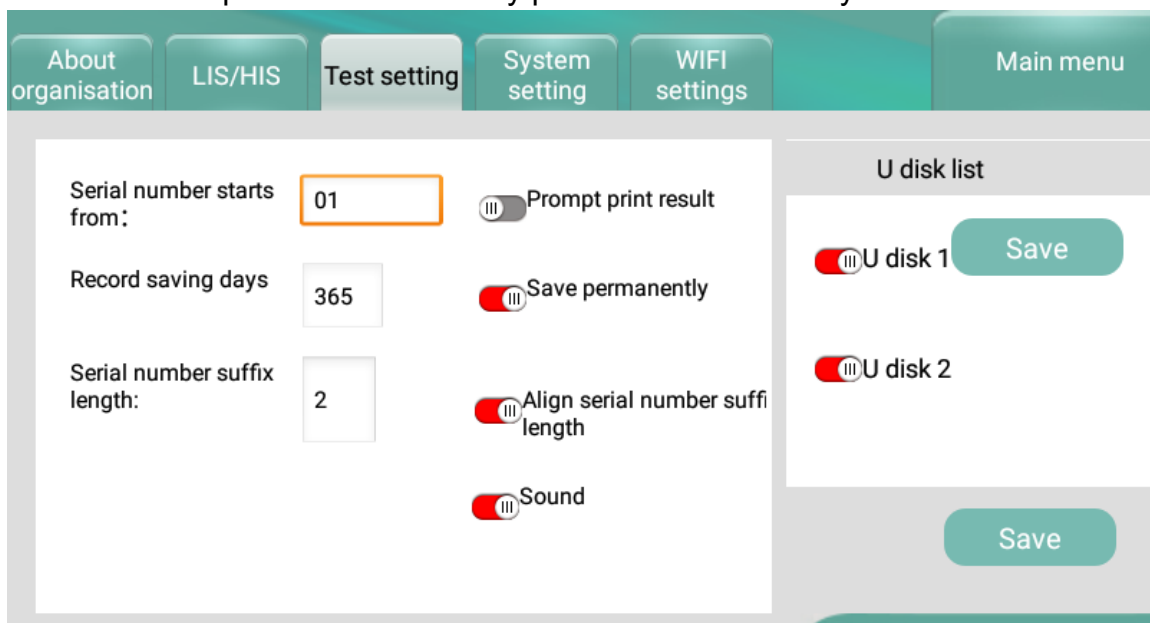

Figure 4.6.3
1. In Figure 4.6.3, the sample code, sample ID length and alignment can be set in [Test Setting] screen.